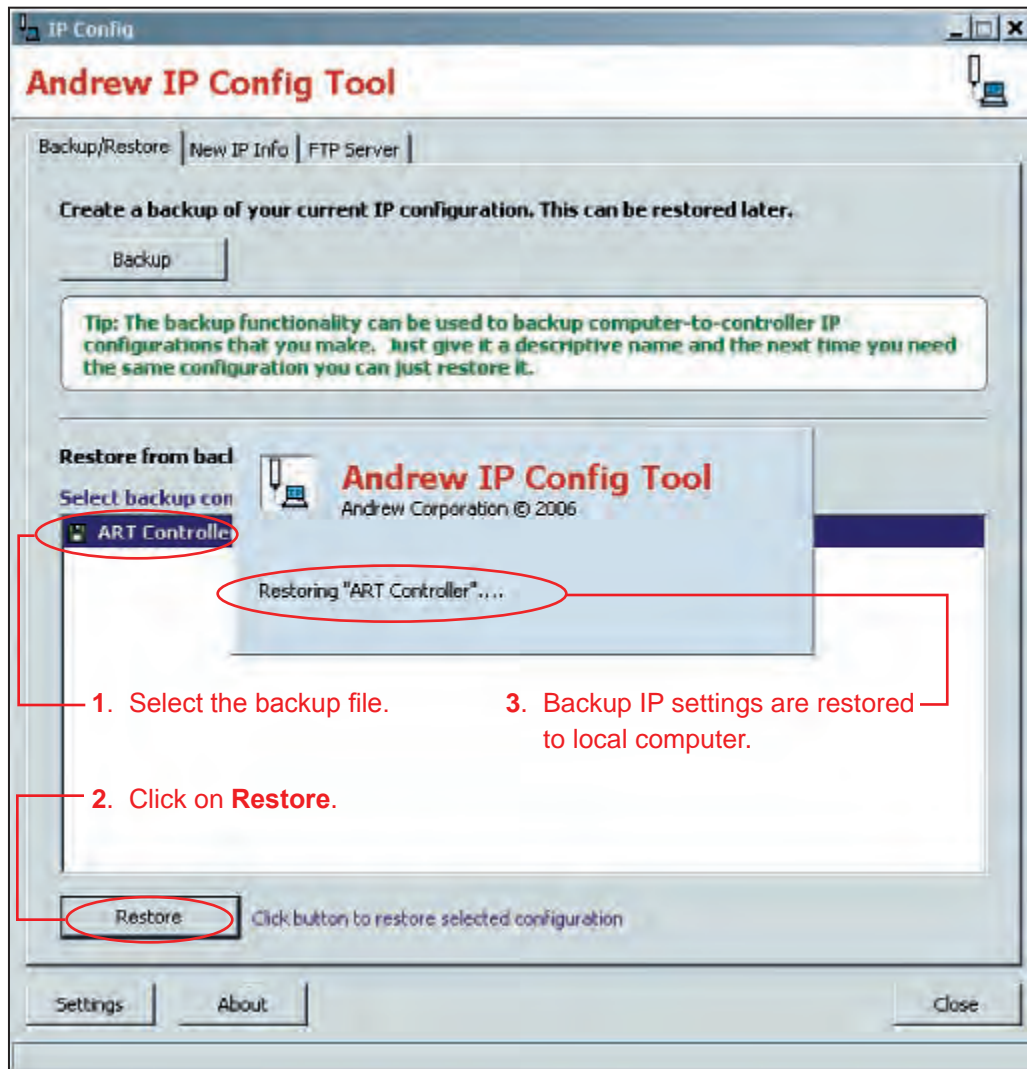

Figure 3-9. Restoring Backup File Settings To Regain Access To Controller.
2. Click on the backup file shown in the window (Figure 3-9).
3. Click on the **Restore** button (Figure 3-9).